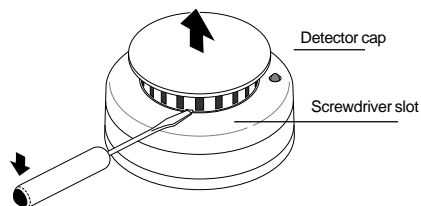
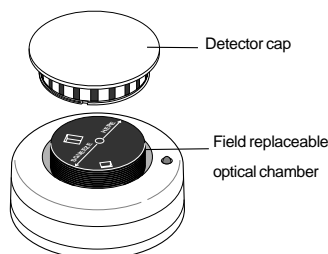

Figure 8. Removing detector cap
Figure 9. Optical chamber
1. Remove the detector cap (see Figure 8), unsnap and throw away the optical block chamber (see Figure 9).